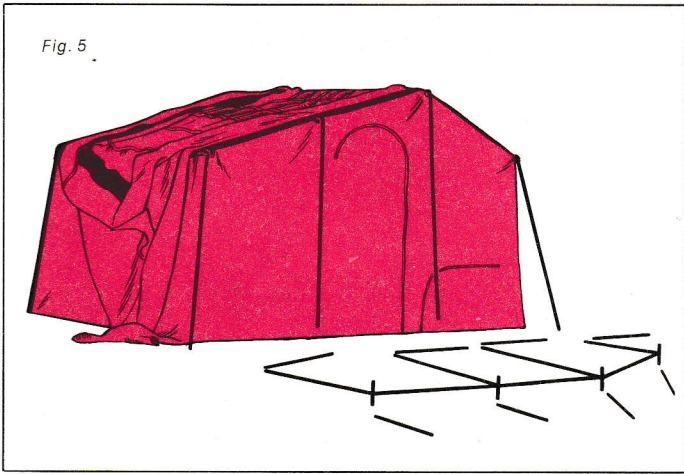

Fig. 6
13. Connect 4 extension poles to front 'A' Frame. (See Figure 6.)